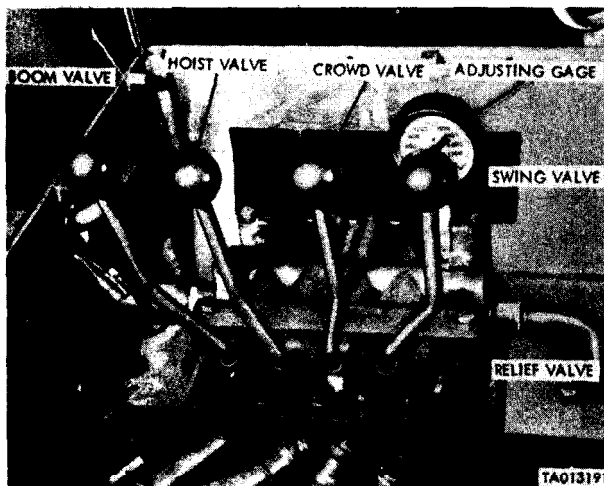

Figure 544. Control valve bank assembly, shown with cover removed and adjusting pressure gage installed.
i. Control Valve Bank Assembly. The control valve bank assembly (fig. 544) is bolted to a shelf at the front of the operator's station. This assembly consists of four spring-centered valve spool sections with an inlet body at one end and an outlet body with an adjustable relief valve at the other end. Each spring-centered valve spool section is actuated by a control lever. Hydraulic oil flows from the pressure inlet of one section to the hydraulic cylinder of motor to be operated, and returns to the section through the discharge port to the pressure inlet of the next section.